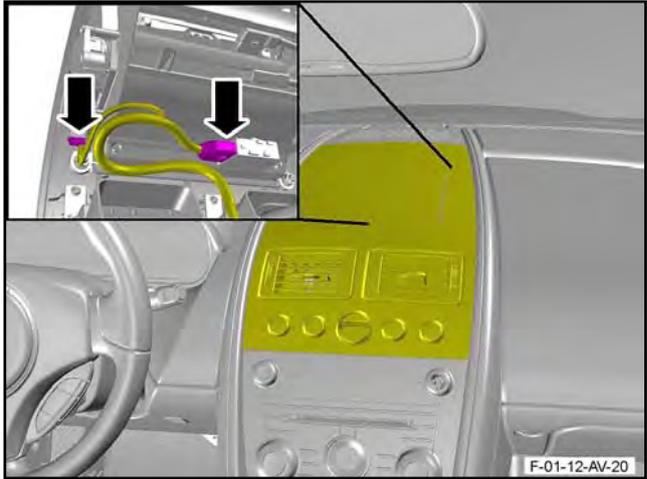

Figure 16
23. Disconnect the two electrical connectors from the navigation display screen (refer to Figure 16).